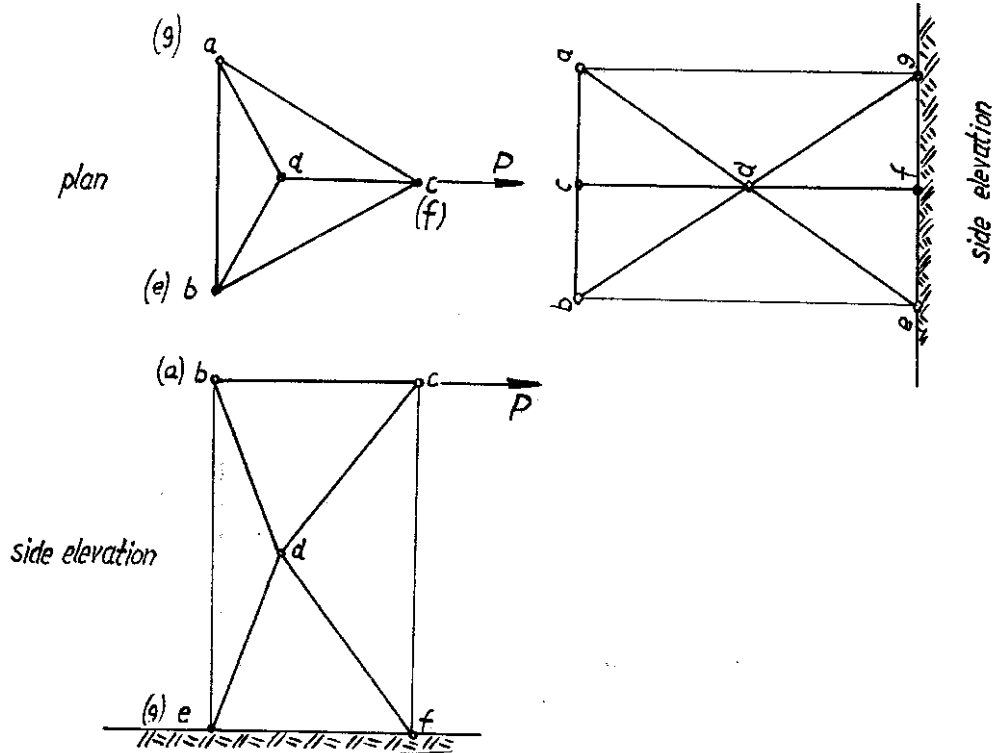

Figure 4
4. A pin-connected space frame shown in Figure 4 consists of two regular tetrahedra  $abcd$  and  $defg$ , joined together at the common hinge  $d$  and with three flexible cables  $ag$ ,  $be$  and  $cf$ , all of equal length. The structure is pinned to the ground at the supports  $e$ ,  $f$  and  $g$  and is under the action of a horizontal load  $P$ , applied at the joint  $c$  as shown. All the members forming the tetrahedra are of the same length  $a$  and have the same cross-sectional area  $A$ . Find the forces in all members of the frame.